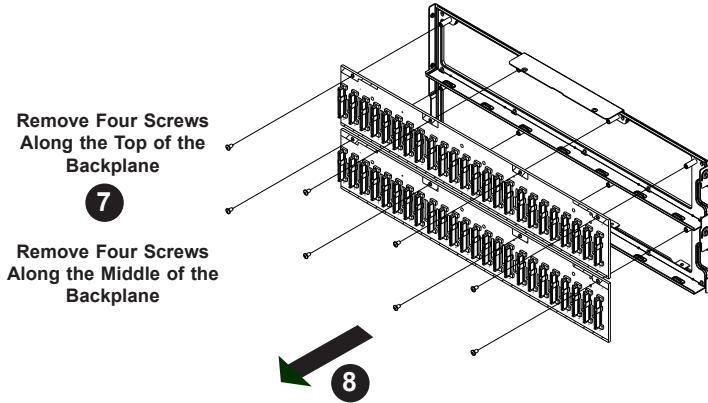

Figure 4-42: Removing the Backplane from the Housing
1. Secure the new backplane into the backplane housing with the eight screws previously set aside. (Figure 4-42)